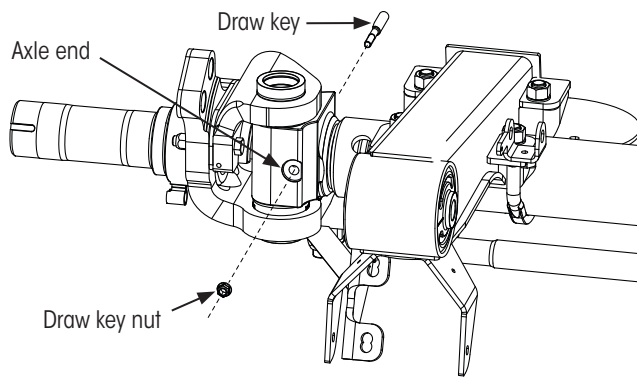

Figure 34: Installing draw key
11. **Install** the draw key nut (Figure 34) and **tighten** to the specified torque¹.
| 1 | Kingpin draw key | $\frac{7}{16}$ -20 UNF | $1\frac{1}{16}$ inch | 30±3 | 40±3 | Figure 34 on page 19 |